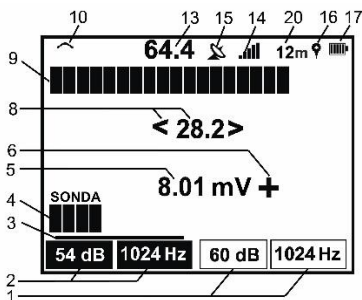

Fig. 20 Display in „Track-SENSOR” mode.
- „TRACE-SENSOR – to locate the utility insulation damage and detect the depth of damaged area; to detect the short-circuited areas or wire break and select the conductors in the multi-core cables. The display of this mode is shown in Figure 20.